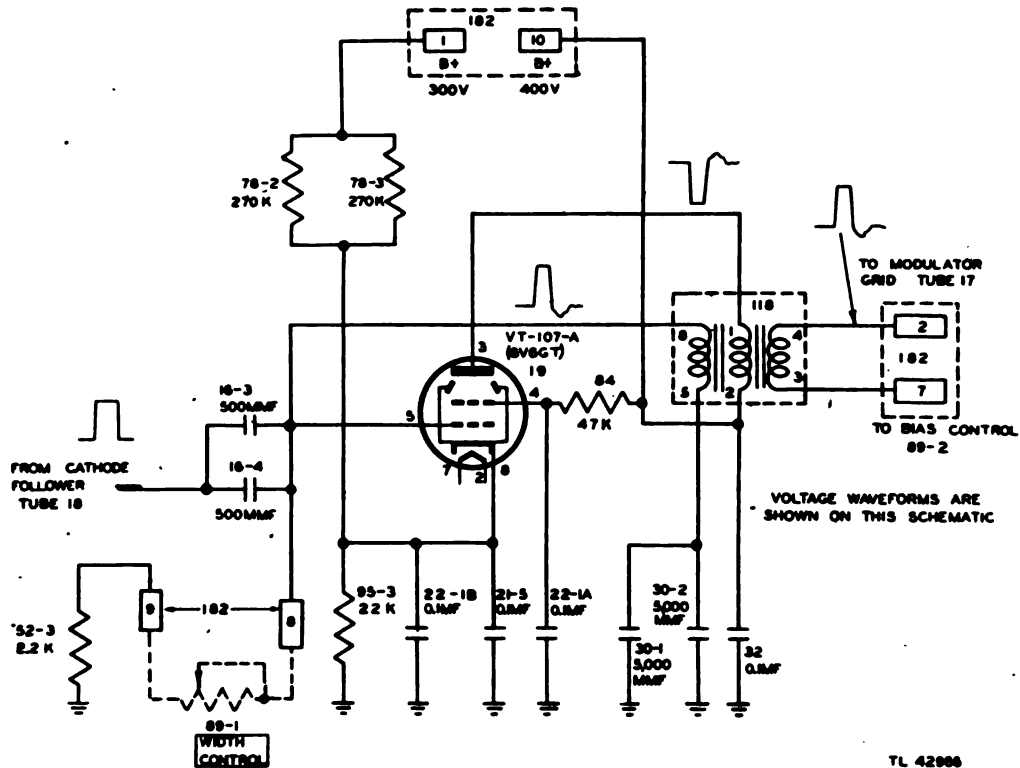

Figure 10. Transmitter, blocking-oscillator circuit.
**a. General.** Tube VT-107-A (6V6GT) is a blocking oscillator (fig. 10). It is a triggered regenerative oscillator with a transformer supplying the required feedback from the plate to the grid. The oscillator is arranged, however, so that it will not operate continuously but will become blocked or inoperative after a definite length of time determined by the constants of the transformer and of the grid circuit. The cathode of the blocking oscillator has a fixed bias supplied by the voltage divider network consisting of resistors 95-3, 78-2, and 78-3 connected between the 300-volt supply and ground. This bias is approximately 40 volts and is sufficient to cut off the tube when a trigger pulse is not present on the grid. When the positive trigger pulse from the cathode follower is applied to the blocking oscillator grid, it triggers the blocking oscillator and sets it into oscillation. The oscillator generates one pulse and then stops until the next triggering pulse arrives. The details of this operation are explained in the following subparagraphs.